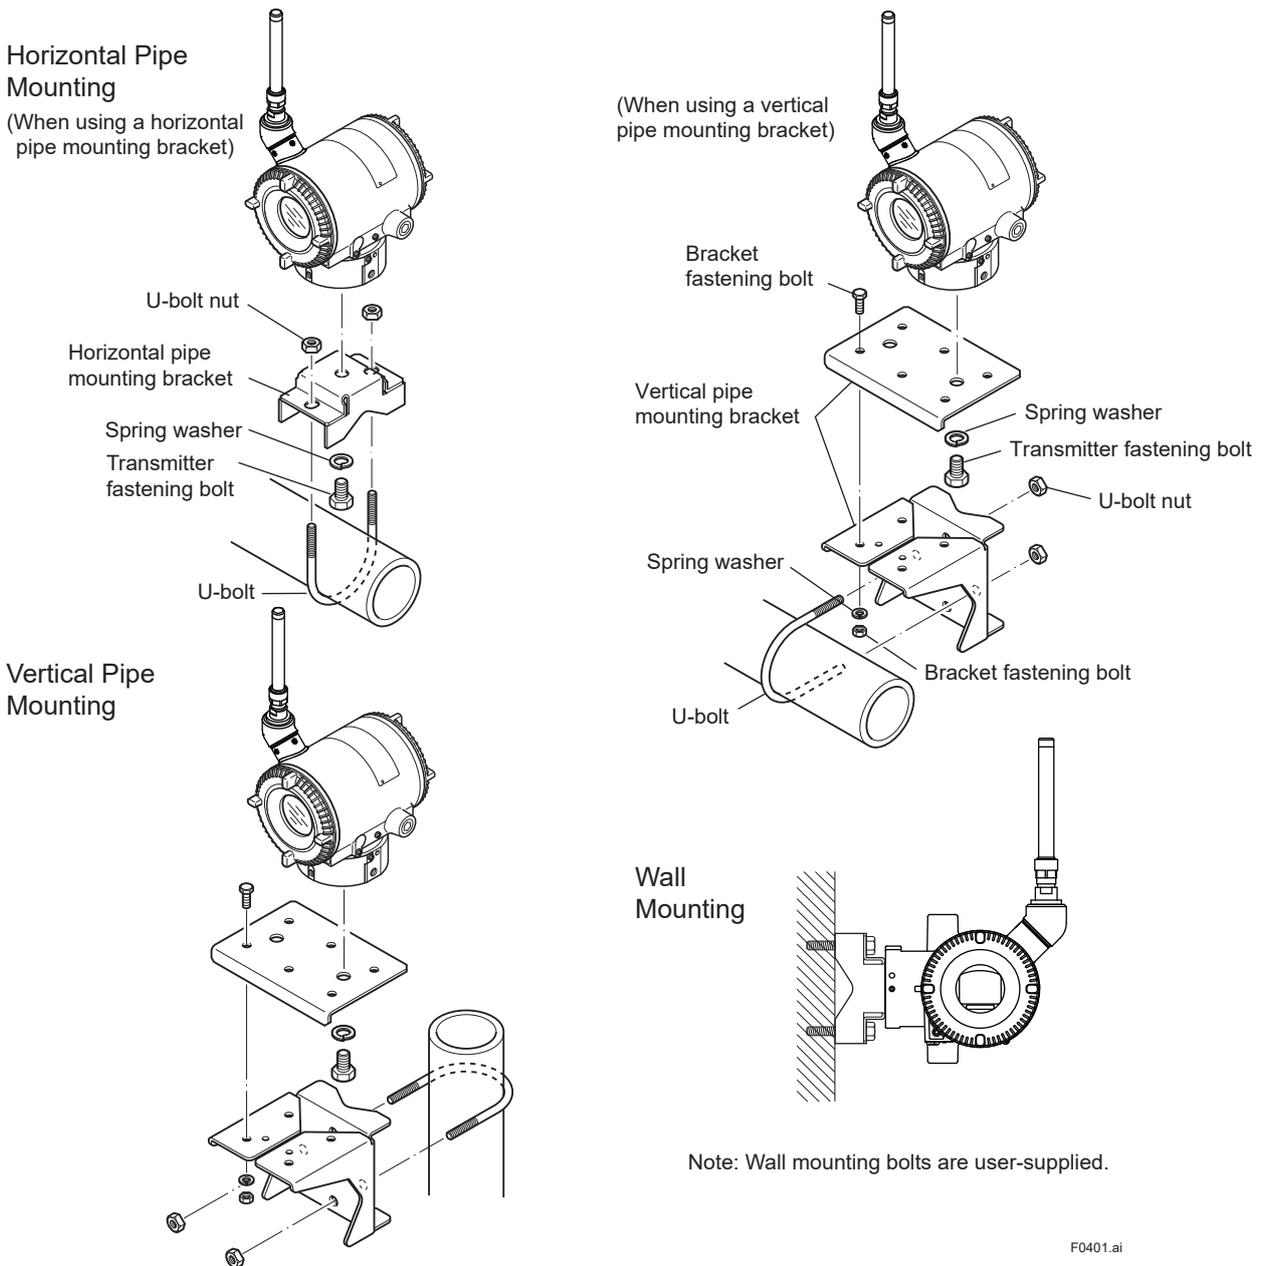

Figure 4.1 Transmitter Mounting
- The mounting bracket shown in Figure 4.1 is used for the transmitter and is installed on 50A (2-inch) pipe. It can be installed either on a horizontal pipe and a vertical pipe or on a wall.
- To install the mounting bracket on the transmitter, torque the transmitter fastening bolt (1) to about 20 to 30 N m.